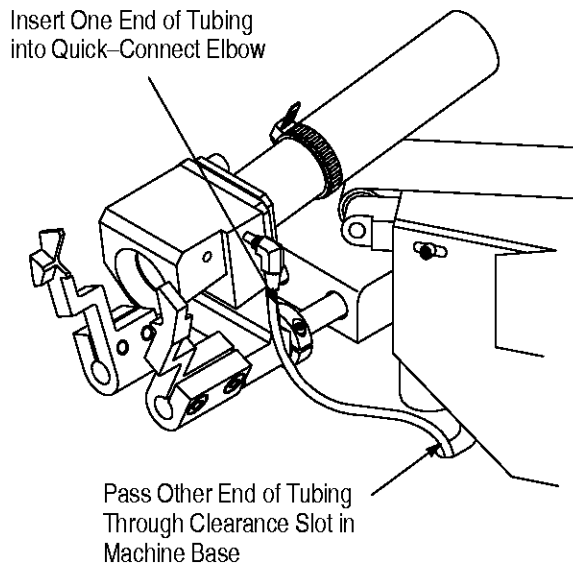

Figure 5
5. Refer to Figure 5 and connect one end of the .25-in. tubing to the quick-connect elbow and pass the other end through the clearance slot in the machine base.